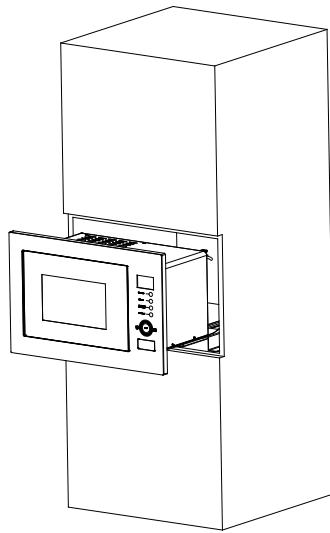

Fig.4
d) Put the product into the cabinet till is adjustable, as shown in Fig.4.